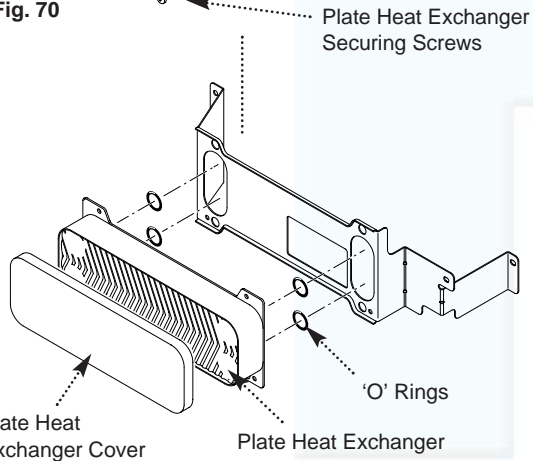

Fig. 71
3. Remove the plate heat exchanger cover (Fig. 71)
4. Remove the 'O' rings from the manifolds and replace with new 'O' rings (Fig. 71).